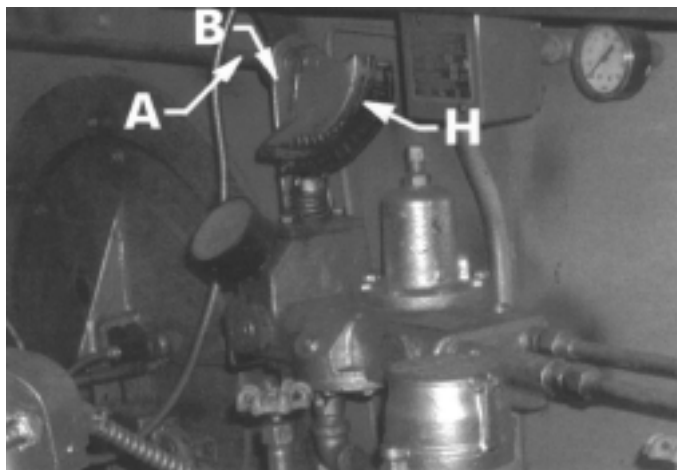
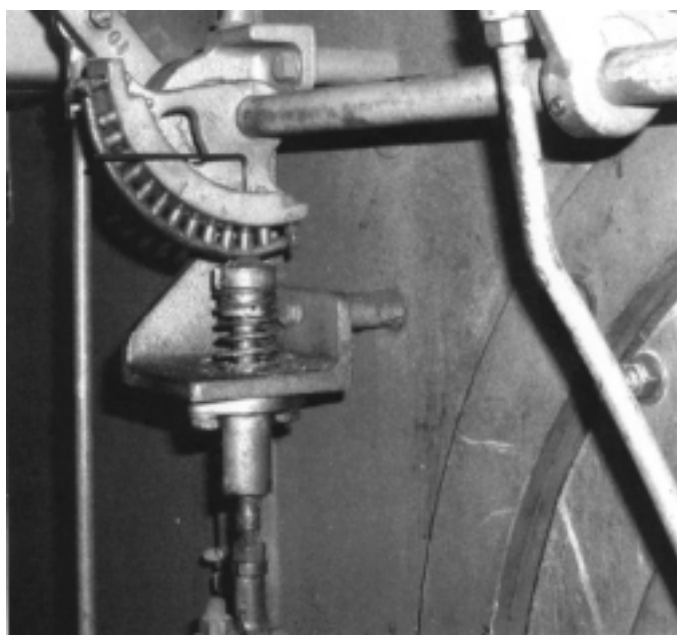

Figure 10-27. Link to oil valve
Figure 10-28. Link to gas valve
The jackshaft is connected by additional linkage to the fuel valves, Figure 10-27 shows the extension of the shaft (A), an end bearing (B) and the cam (H) that directly positions the fuel oil flow control valve. On this particular boiler the cam for the gas valve is used to change the stroke of the linkage (Figure 10-28) for gas.
After establishing linearity, tuning consists of positioning the controls at each screw on the fuel valve (Figure 10-27 or 10-28) then adjusting the screw to increase or decrease actual fuel flow at that position until the desired air to fuel ratio is established.